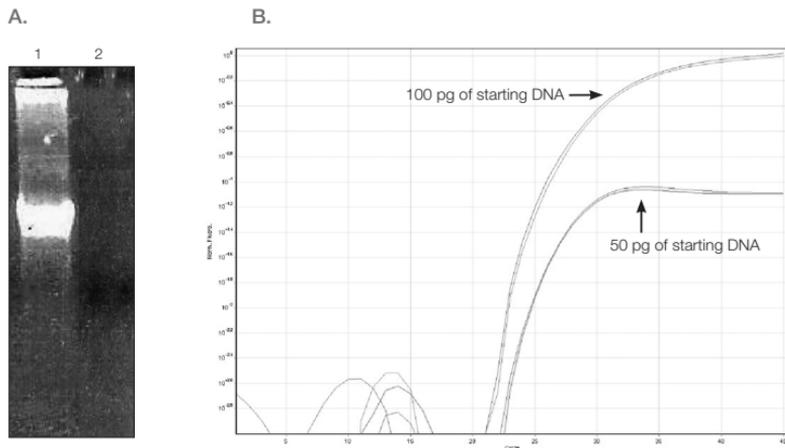

Figure 2. "Loss-less" conversion technology.
- virtually no loss of DNA (Figure 2)
- improved sensitivity (Figure 2 and 3)